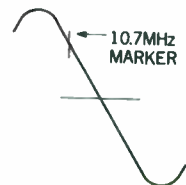

Fig.7
2. If the Ceramic Filters EXCEPT RED are used, 10.7 MHz maker will not appear at the center of "S" curve. (See Fig. 7, 8)